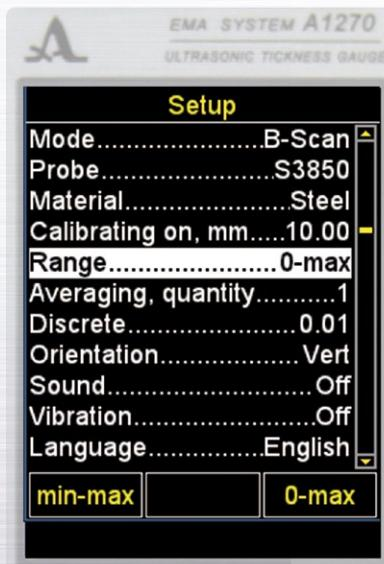

Figure 31
**0 - MAX:** the vertical scale of the B-Scan is constantly adjusted to show the range from the point zero to the maximum measured value. The Range option is shown in Figure 31.